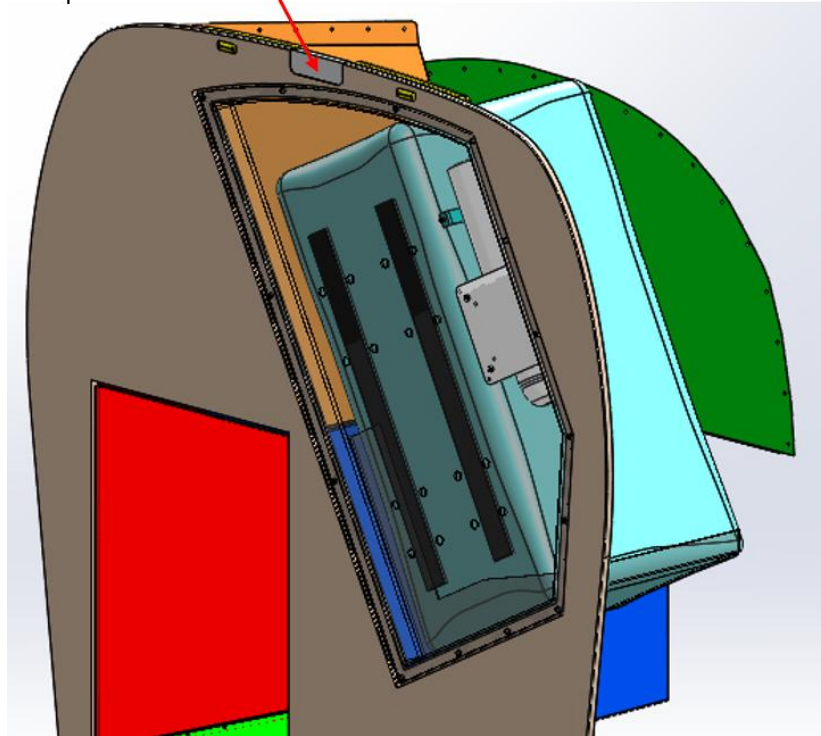

Figure 18: Parachute Cable Hole Sealing at Bulkhead Interface with Parachute Compartment.
1. Refer to Figure 18 for the seal dimensions, placement, and orientation.
2. Cut an SPX foam seal measuring 80 mm × 25 mm × 10 mm thick with 8 mm corner radii on the two lower corners, as shown in Figure 18.